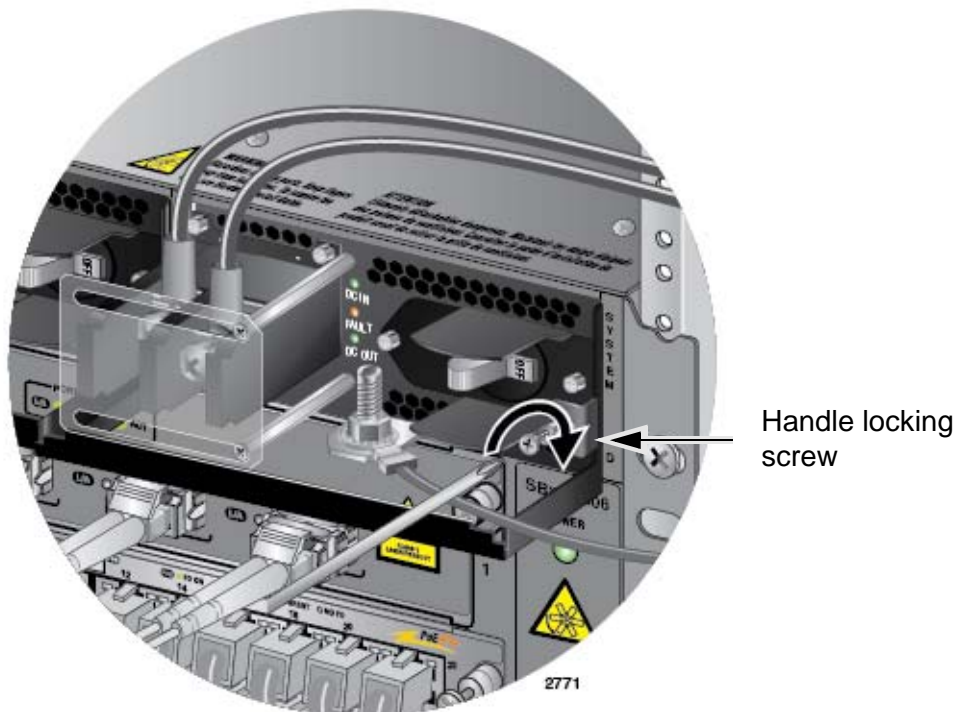

Figure 130. Tightening the Handle Locking Screw
9. With a #2 Phillips-head screwdriver, tighten the handle locking screw to secure the power supply to the chassis. See Figure 130 on page 188.
8. With a #2 Phillips-head screwdriver, tighten the handle locking screw to secure the power supply to the chassis. See Figure 130 on page 188.